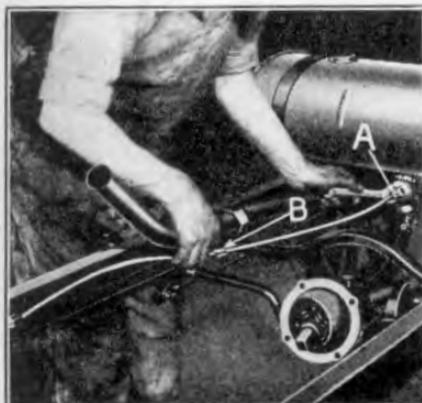

Fig. 77
- (c) Connect feed pipe to sediment bulb by running down pack nut (See "A" Fig. 77).